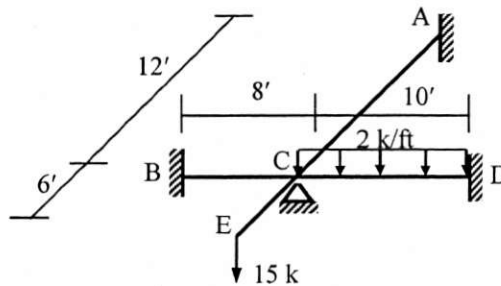

Figure 4
4. Determine the joint rotations at C of the grid loaded as shown in Figure 4 if joint C settled 0.10 inch [Given:  $EI = 40 \times 10^3 \text{ k-ft}^2$ ,  $GJ = 30 \times 10^3 \text{ k-ft}^2$ ].